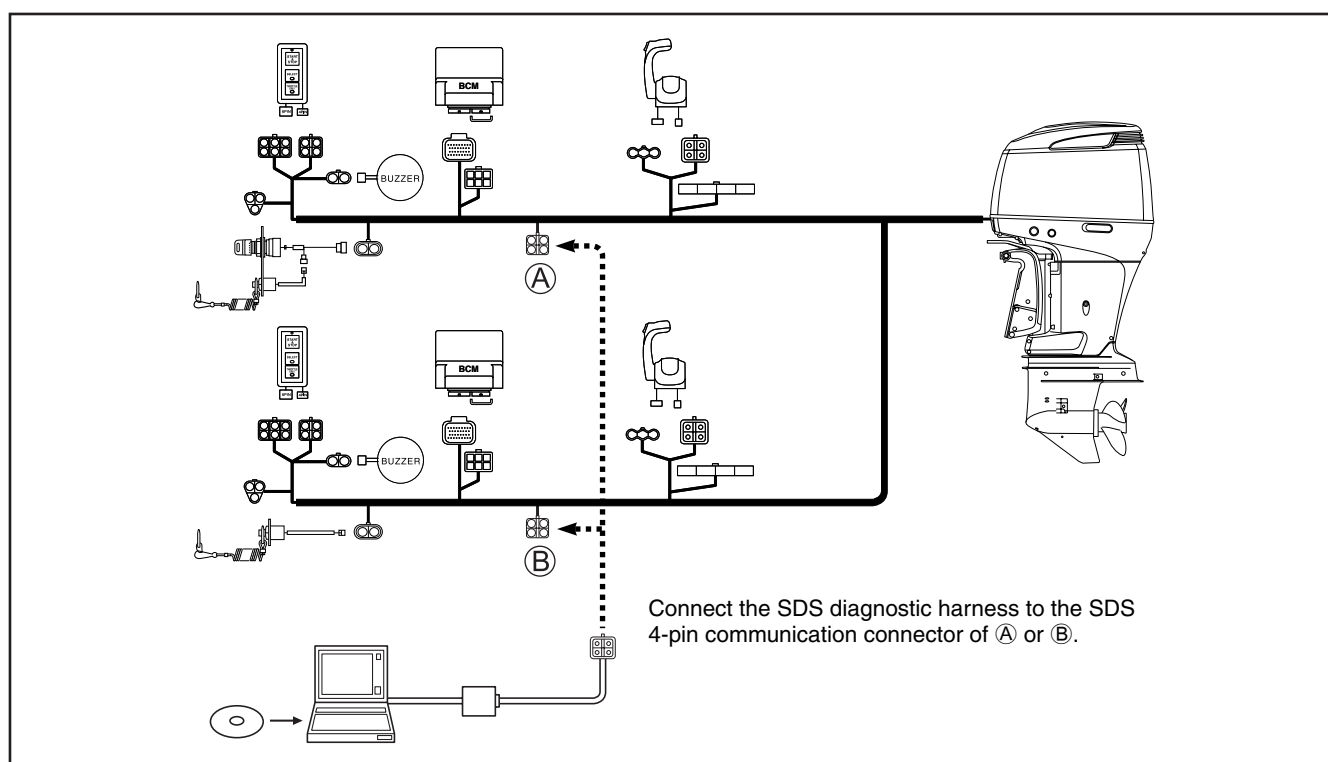

Fig.83
1. Connect your PC to the BCM of the outboard motor by using the following special tools. (Fig.83)